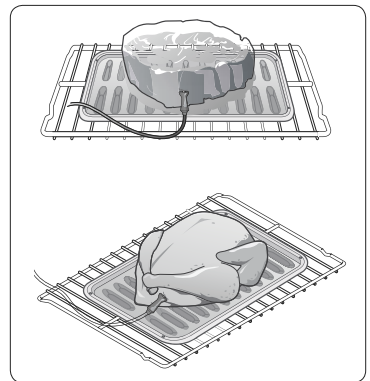

Fig.15
- Insert the probe completely into the meat as shown in the Fig.15. It should not touch bone, fat, or gristle.